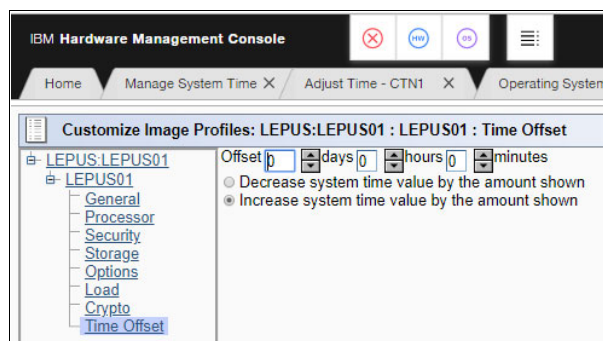

Figure 5-30 Customize Image Profiles: Time offset
2. A new selection that is called **Time Offset** becomes available at the left. Use the Time Offset window to set the offset, as shown in Figure 5-30.